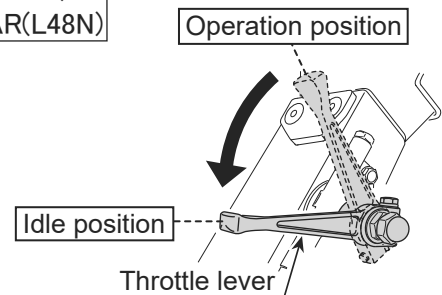

Fig.23
- 3 If you want to suspend the work, to return quickly to the idle position the throttle lever. (Fig.23)